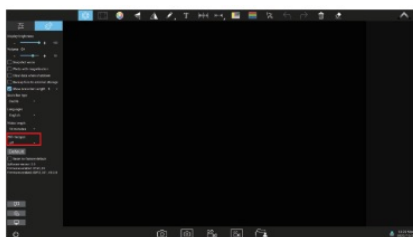

Figure 1
- (1) Click the “” setting icon in the upper left corner of KoPa WiFi Lab AO;
- (2) Click the icon “” ;
- (3) Click the icon “” at the bottom left, Open WLAN (as in Figure 1 and 2);